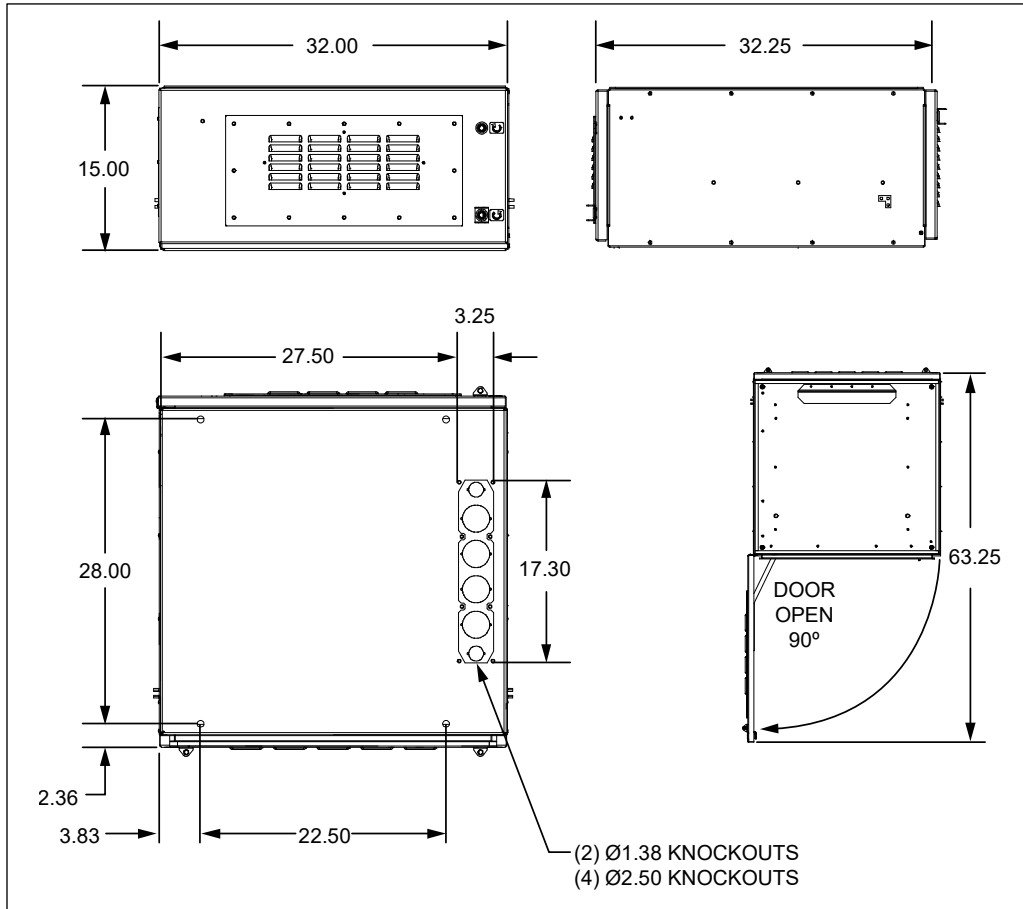
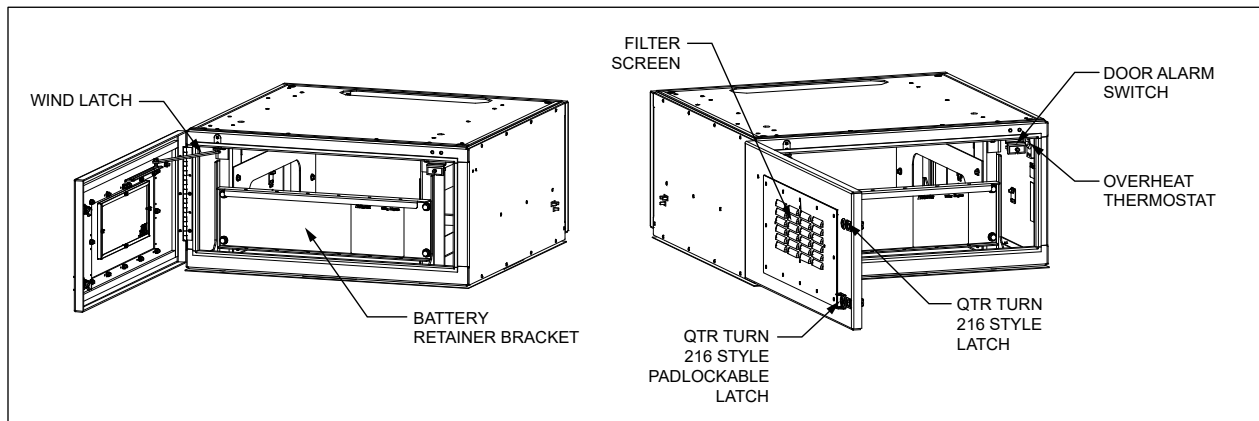

Figure 2 BB Dimensions (in inches)
Figure 3 BB Components
Figure 2 shows the BB dimensions. Figure 3 shows the main components of the BB.
1. Layout, drill, and set the 1/2" anchors per manufacturer's recommendations. The embedment depth is not to exceed 3.5". See Figure 2 for mounting hole dimensions.